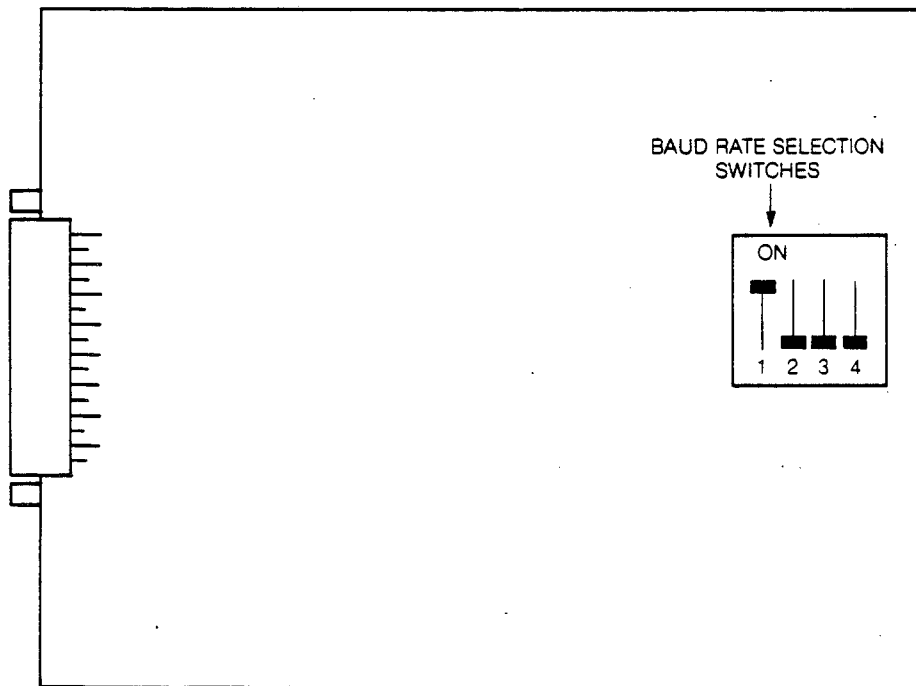

Figure 5-19 RSM Baud Rate Selection
- b. Set the RSM baud rate (Refer to Figure 5-19).